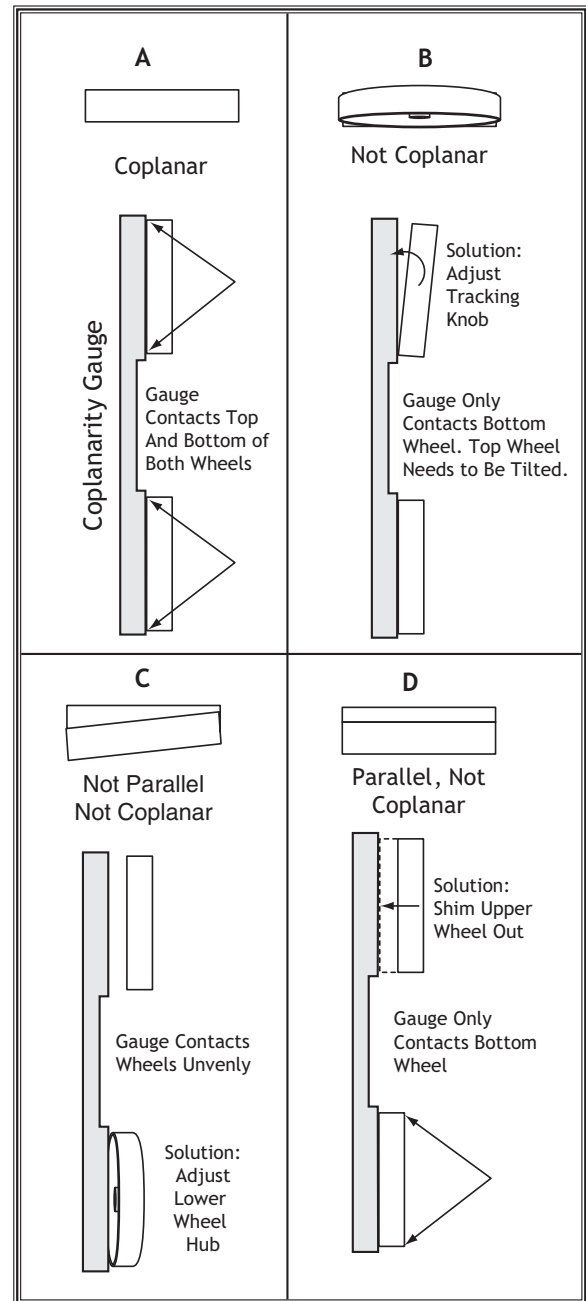

Figure 75. Coplanar diagram.
- If the wheels are coplanar (**Figure 75, A**), the straightedge will evenly touch the top and bottom of both wheels.
- If the wheels are not coplanar (**Figure 75, B**), place the straightedge on the lower wheel first (ensuring that it touches both the top and bottom rim), then adjust the upper wheel tracking knob to make the upper wheel coplanar and parallel with the lower wheel.
- If the straightedge does not touch both wheels evenly, the lower wheel needs to be adjusted (**Figure 75, C**) or the upper wheel needs to be shimmed (**Figure 75, D**).